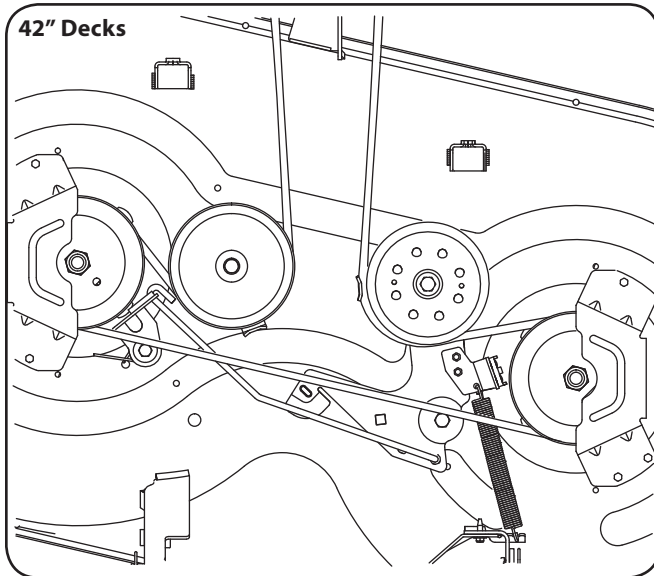
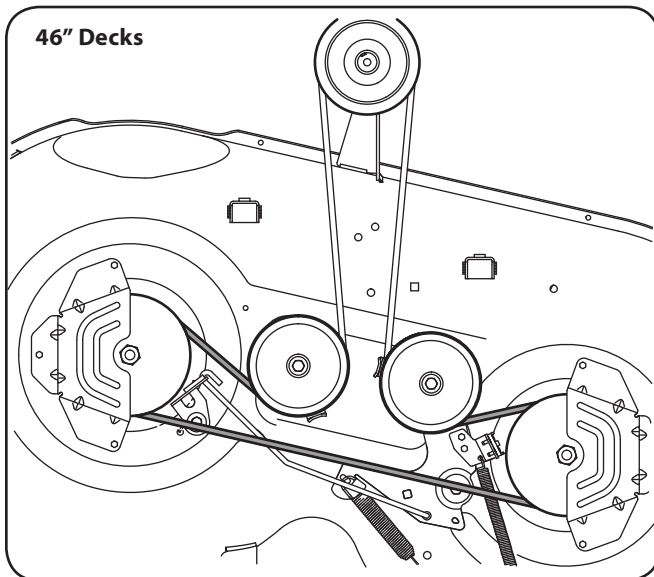
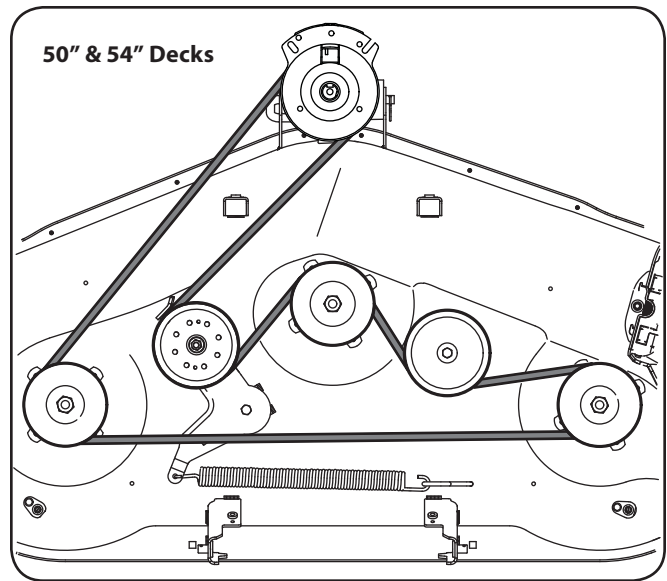

Figure 7-8
Figure 7-9
Figure 7-10
- Route the new belt as shown in the applicable figure on the following pages. See Figure 7-8 for 42" decks, Figure 7-9 for 46" decks and Figure 7-10 for 50" & 54" decks.